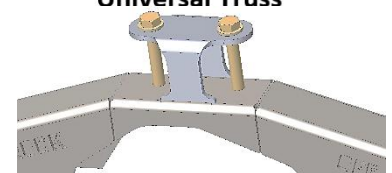

Figure 14
58. Weld upper control arm bracket to truss (see figure 14). Box Truss: Be sure holes are aligned in the bracket/truss and leave 2-5/8" plus some wiggle room for mounting control arms. Plate Truss: Using the bracket as a template: place the bracket flush to front edge of truss and directly over the axle centerline, then mark the location of holes to be drilled. Drill the two holes starting with a small drill size and ending with 9/16" Use plenty of oil. Be sure bolt holes are aligned in the bracket/truss and leave 2-5/8" plus some wiggle room for mounting control arms before welding.
59. Assemble UCA mounting bolts and nuts from hardware kit 150 onto truss (see figure 14 & 15). Snug bolts and weld nuts to bottom of truss. Box Truss: Stitch weld the truss gusset into the inside of the truss. Ensure holes in gusset are aligned to truss (if applicable).